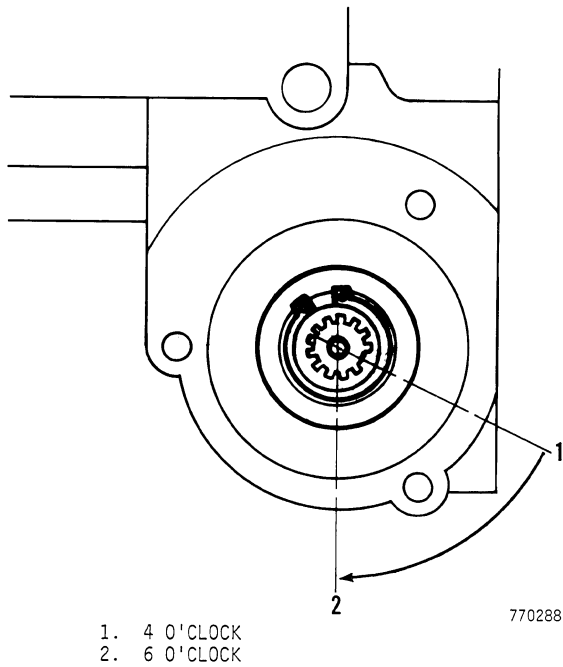

Figure 169
- Turn the engine crankshaft slowly until the front cylinder inlet valve closes. Install the engine oil pump and injection pump drive. The engine oil pump and injection pump drive must be timed by starting the teeth meshing into the camshaft at a 4 o'clock position, Figure 169. As the drive is pushed fully into the engine block, the master spline will be between the 6 o'clock position and the 7 o'clock position.